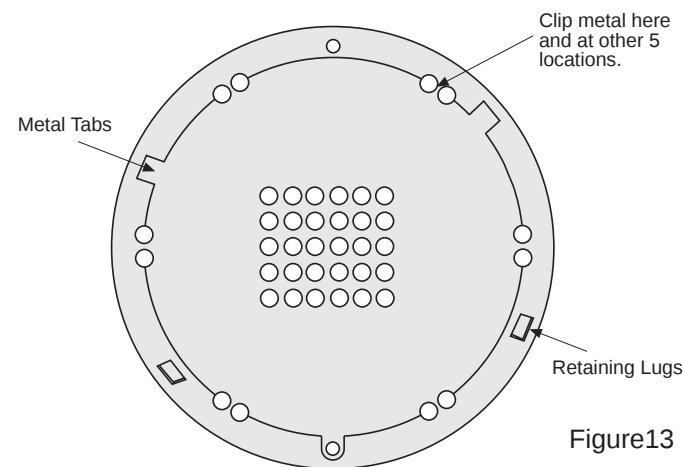

Figure13
(Refer to Figures 13 and 14 below)
- (1) Turn the unit and cut the 6 joints of the bottom plate and the motor cover using diagonal pliers (nipper). (See Figure 13)
- (2) Seperate the motor cover and the bottom plate.